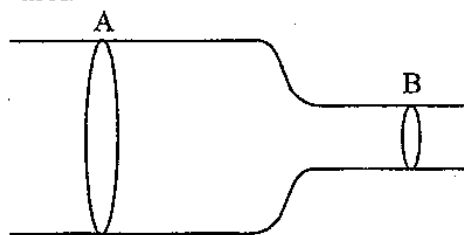

Fig 2.1
- (b) Fig. 2.1 shows an ideal incompressible fluid of density 790 kg m^{-3} flowing from A to B in a tube of varying cross-section. The cross-sectional area decreases from 390 mm^2 at A to 210 mm^2 at B. The fluid has a speed of $5.2 \times 10^{-3} \text{ m s}^{-1}$ at A.